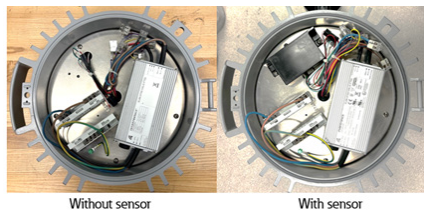

FIGURE 8
- 5. Close housing onto cover module, making sure that all wires are safely inside housing. Tighten captive closing screw to 30 in.-lbs. (3.4 N-m). Ensure two (2) bosses on housing are in contact with cover module. See Figure 8.